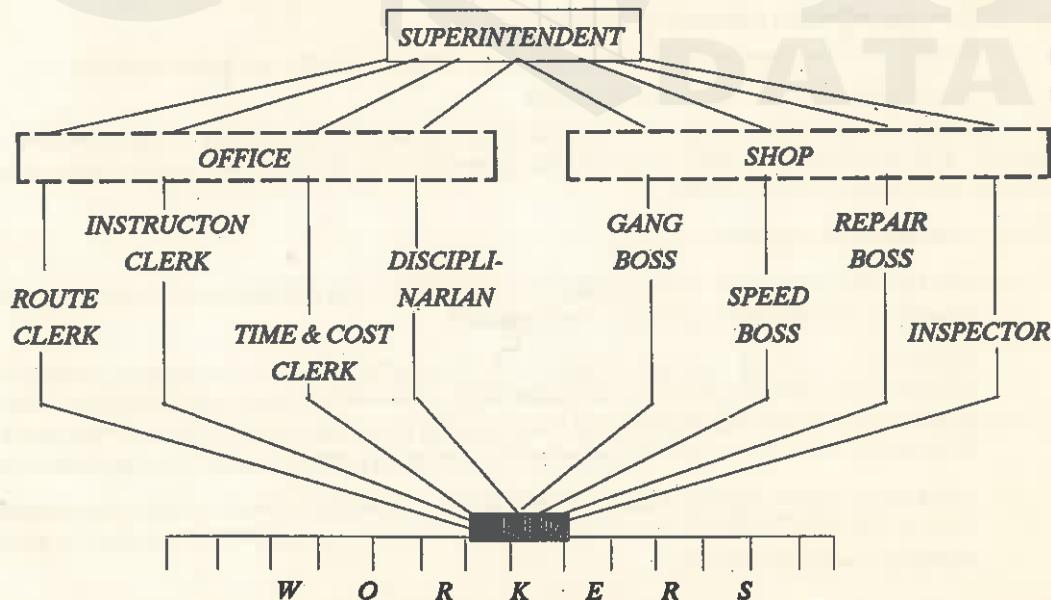

Fig. 3.6. Taylor's functional organisation.
3.11.2. Functional Organisation (Fig. 3.6)